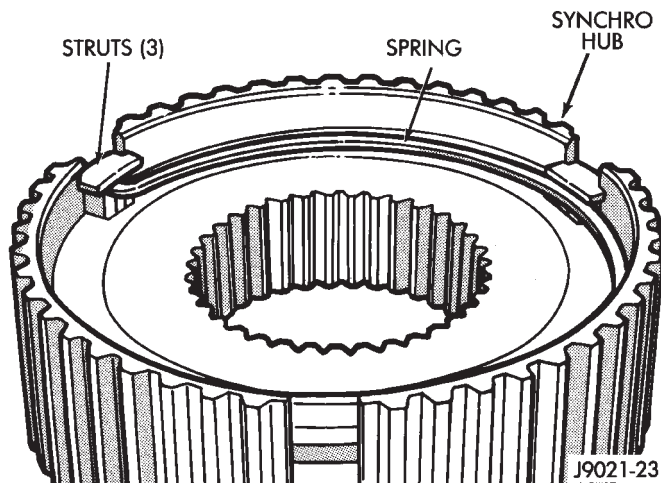
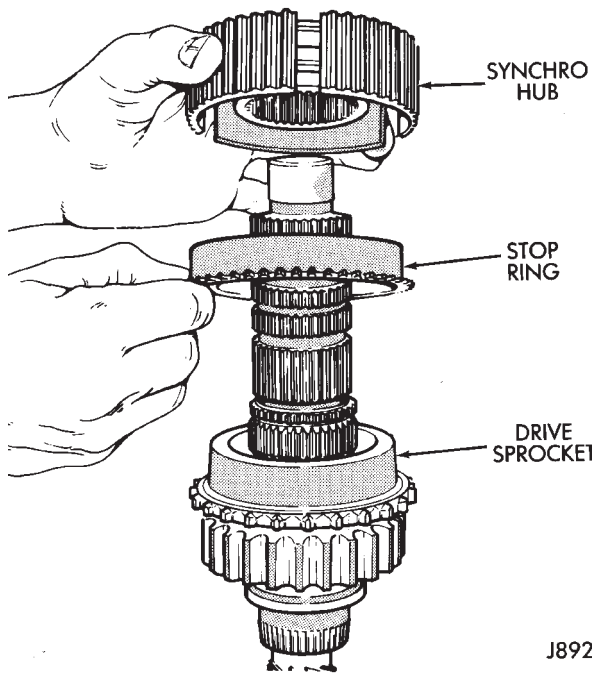

Fig. 57 Installing Synchro Springs And Struts In Hub
Fig. 58 Sprocket, Stop Ring And Hub Installation
(2) On synchro models, install struts and spring(s) in hub (Fig. 57).
(3) Lubricate drive sprocket bearings, stop ring and hub with automatic transmission fluid. Bearings can also be lubricated with petroleum jelly if desired.
(4) Install sprocket, stop ring (synchro models only) and hub on mainshaft (Fig. 58). **Be sure to seat hub struts on stop ring lugs.**
(5) Install spacer washer on hub, if equipped.